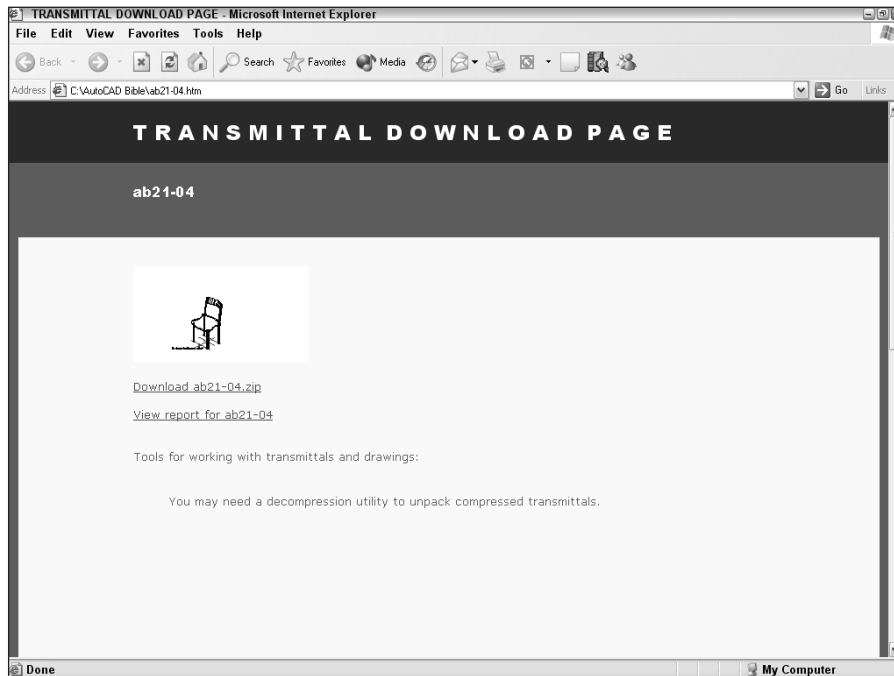

Figure 28-2: The Web page created by eTransmit
- ◆ **Make Web Page Files** creates a Web page with a link to the transmittal files. You can post this Web page on an intranet or tell recipients the Web page URL so they can download the files from the Web page. See Figure 28-2 for an example of the Web page this feature creates.